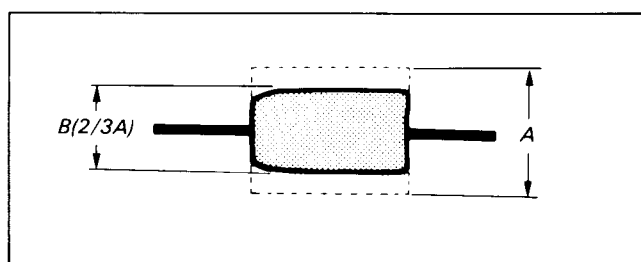

Fig. 8-75.
- 4) Set the SEL switch of the track shift & monitor jig to ON, then turn the track shift knob until the RF waveform amplitude is 2/3. (Fig. 8-75)